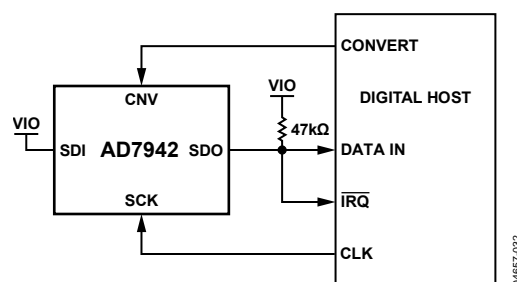
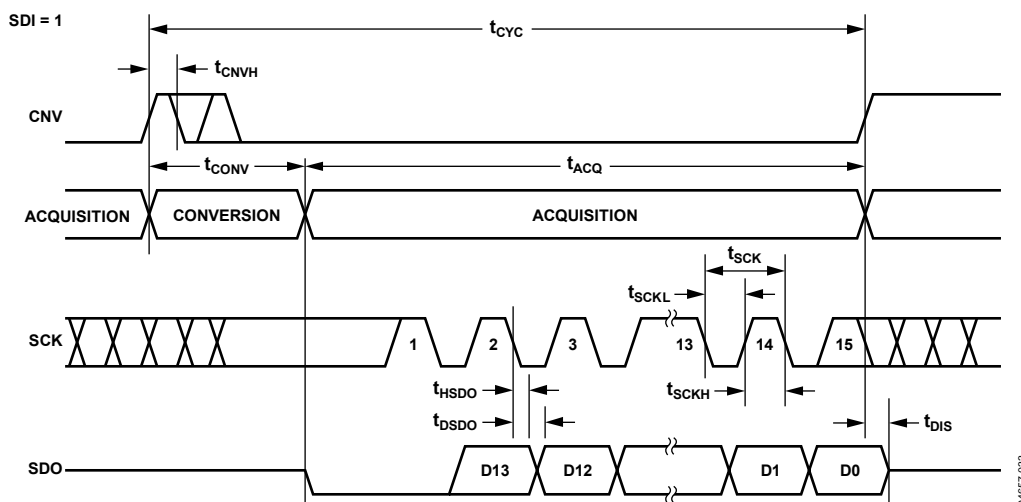
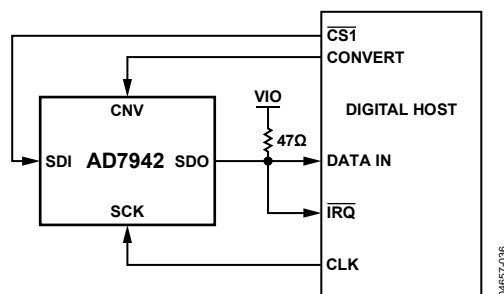
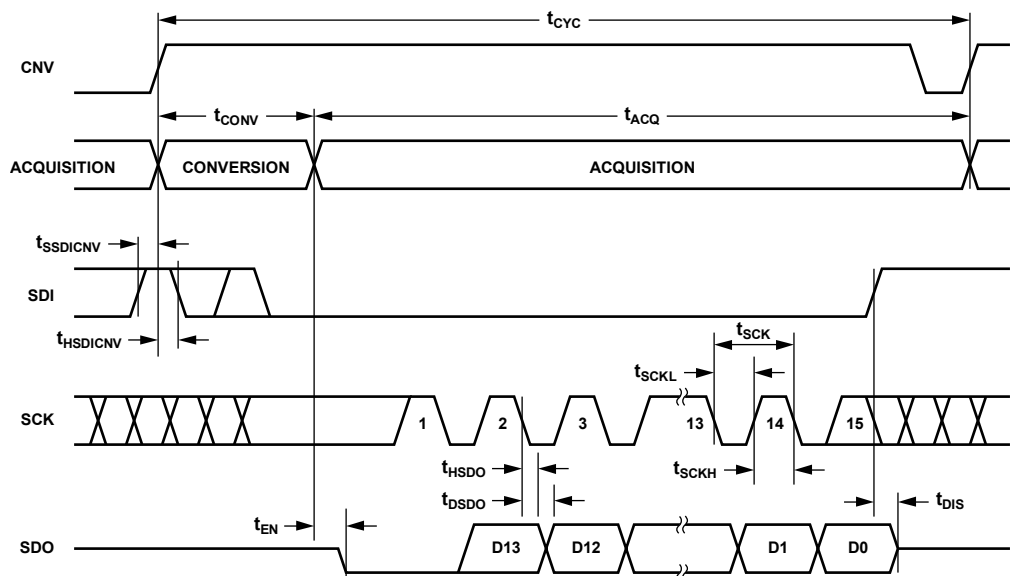

Figure 32. \overline{CS} Mode 3-Wire with Busy Indicator Connection Diagram (SDI High)
Figure 33. \overline{CS} Mode 3-Wire with Busy Indicator, Serial Interface Timing (SDI High)
Figure 36. $\overline{\text{CS}}$ Mode 4-Wire with Busy Indicator Connection Diagram
Figure 37. $\overline{\text{CS}}$ Mode 4-Wire with Busy Indicator, Serial Interface Timing
- In the $\overline{\text{CS}}$ mode, if CNV or SDI is low when the ADC conversion ends (see Figure 33 and Figure 37).
This mode is most often used when a single AD7942 is connected to an SPI-compatible digital host with an interrupt input. The connection diagram is shown in Figure 32 and the corresponding timing diagram is shown in Figure 33.
This mode is most often used when a single AD7942 is connected to an SPI-compatible digital host with an interrupt input and to keep CNV (which is used to sample the analog input) independent of the signal used to select the data reading. This requirement is particularly important in applications where low jitter on CNV is desired. The connection diagram is shown in Figure 36 and the corresponding timing diagram is given in Figure 37.